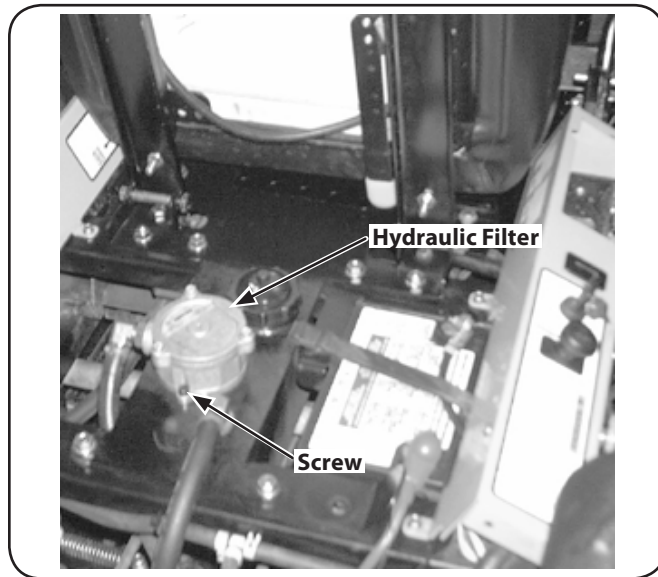

Figure 6-3
8. Place a small pan under the pump motor frame. Remove fill oil cap from hydraulic reservoir for faster drainage. Remove nut caps and drain oil from both left and right pumps. Replace and retighten nuts. See Fig. 6-3.